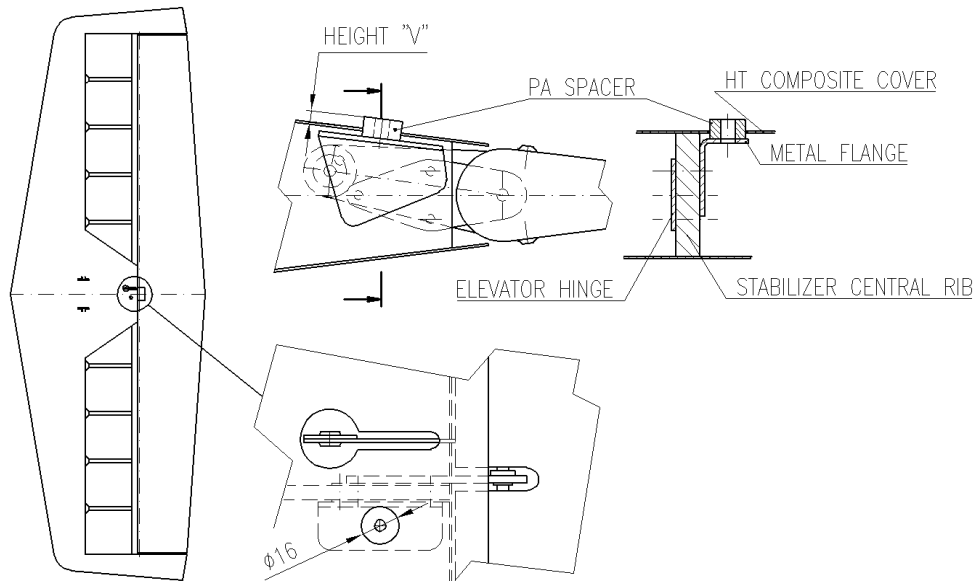

Fig. 1
1. Place the HT upside down, insert the polyamid spacer into its hole, check the height of PA spacer overlapping the HT cover (see fig. 1) and remove the spacer again. This dimension (marked as „V“ at fig. 1) is important for preserving the tail-setting angle after the modification.